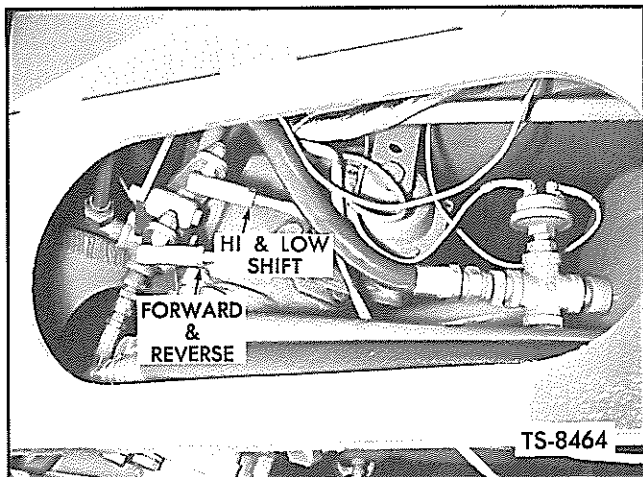

Fig. 34. Adjust Directional and Speed Range Shift Levers
4. Adjust lever positions at the ball joint assemblies at each end of the lever control rods. See Figure 34.